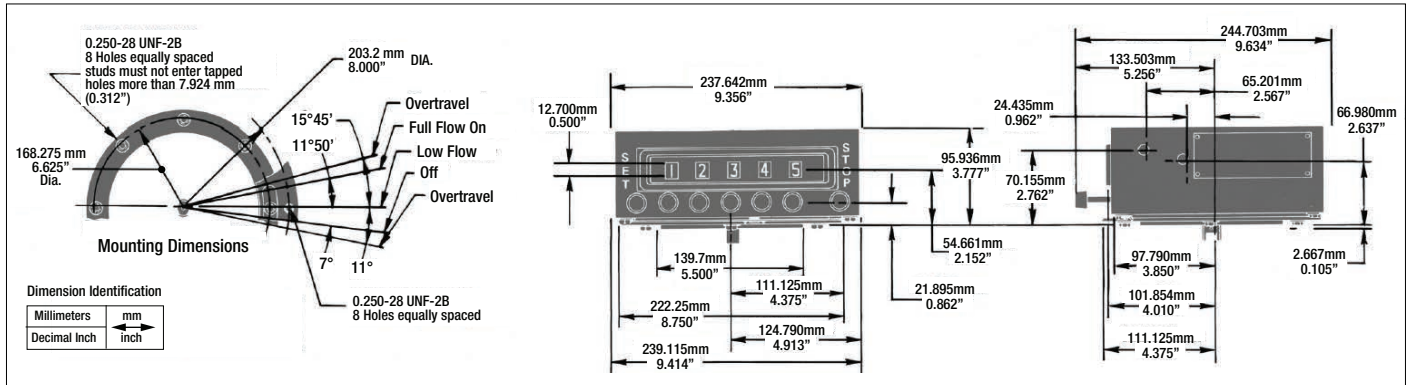

Figure 1. Exterior and Mounting Dimensions - Series 7889 Preset.
See Figure 1. There are eight tapped mounting holes for use with 1/4-28 screws. The Preset is designed to mount directly on a Liquid Controls, Smith or Tokheim Flow Meter. Adapters are available for mounting on Brodie, Neptune, Rockwell or Keene (Bowser) meters.
The Preset can be connected to a two-stage valve by customer-supplied, direct linkage. The linkage connects to a rotating knockoff plate on the bottom of the Preset case with a 1/4-28 screw (Figure 1). The rated first-stage valve load is 60 pounds.
• Outline Dimensions - See Figure 1.
Two-stage knockoff. Unit counts down from preset number. First stage knockoff point is set at the factory to customer's specification at 90, 80, 70, 60, 50, 40, 30, 20, 10, 9, 8, 7, 6, 5, 4, or 3. An optional three-finger rake provides first stage knockoff at a number between 900 through 100 in increments of 100. The setting can be internally changed by the customer in the field. Second (final stage) knockoff occurs when all wheels reach zero. See Figure 1 for angular travel of knockoff plate.
5. Verify that after the valve closes, the knockoff plate has rotated the correct distance of 15°, 45' plus 7° (Figure 1) and that there is some over-travel still left in the plate.